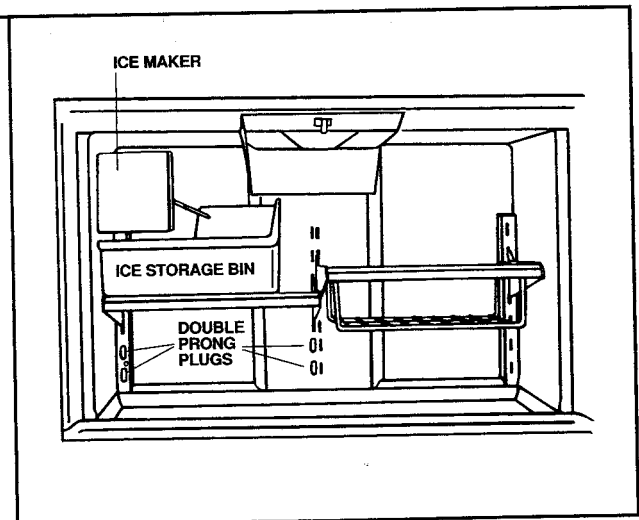

Figure 18
14. Position the ice storage bin under the ice maker on the freezer shelf, as shown in Figures 18 and 19, to avoid overfilling the bin. Close the freezer door.